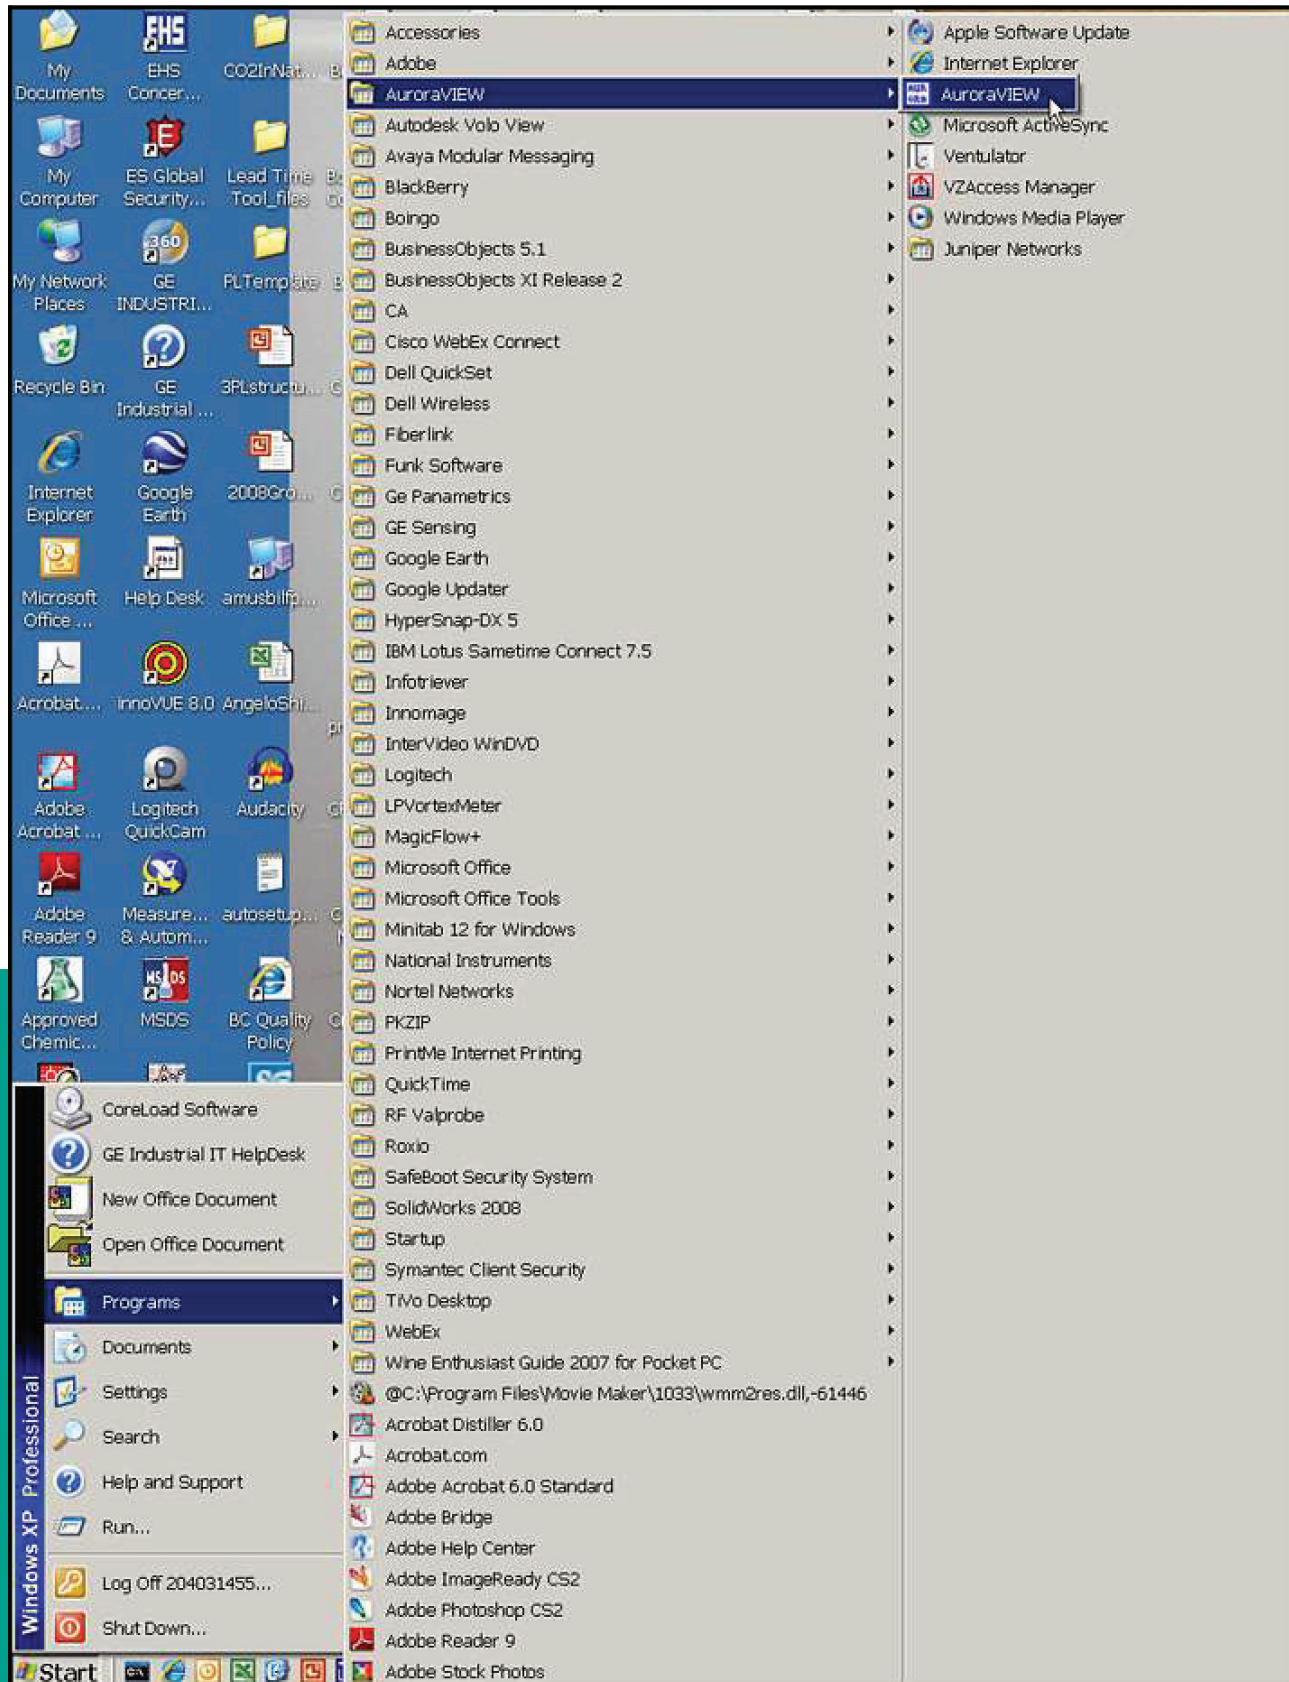

Figure 54: AuroraView in programs menu
1. From the start menu, click programs → AuroraView → AuroraView (see Figure 54 below).